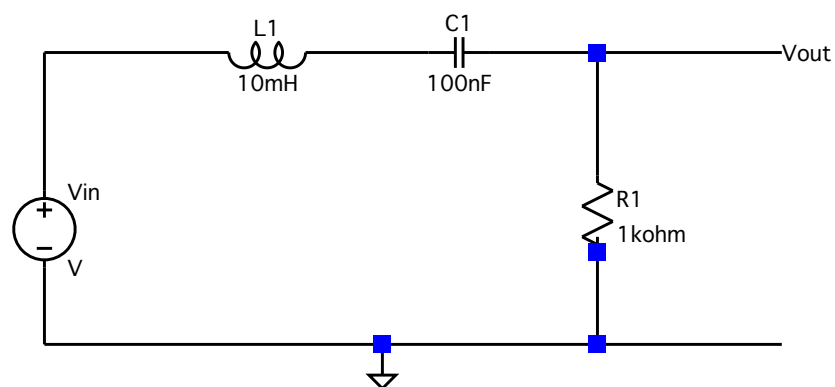
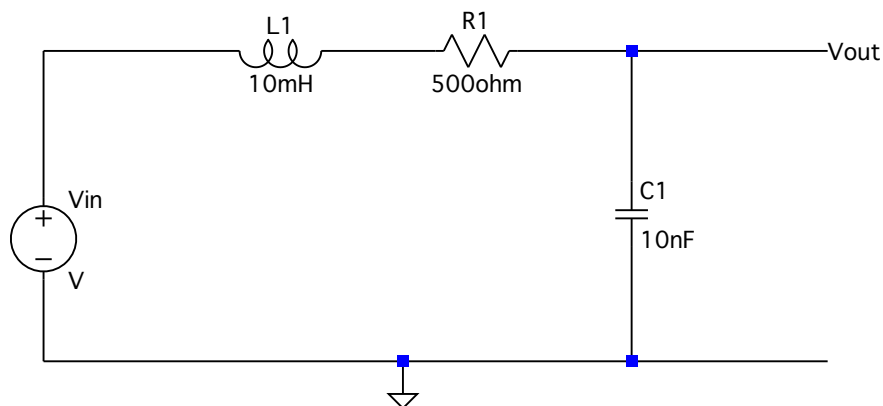

Figure 1 LTSPICE Circuit #1 for Bandpass Filter
Figure 2 LTSPICE Circuit #2
- Create the simple circuit shown in Figure 2 in LTSPICE. Using the notation used in Lab IX, set the voltage source V_{in} to be an AC source with 5 volt amplitude and 0 volt offset. Using Lab IX, Figure 1 as a guide, create the SPICE directive to sweep the input frequency from 10 Hz to 1 MHz with 20 frequency steps per decade. Verify that your center frequency and half power points agree with the predictions made in Step 1.
- Modify the LTSPICE circuit to match the circuit shown in Figure 2.
1. Construct the circuit shown in Figure 1
1. Construct the filter shown in Figure 2.